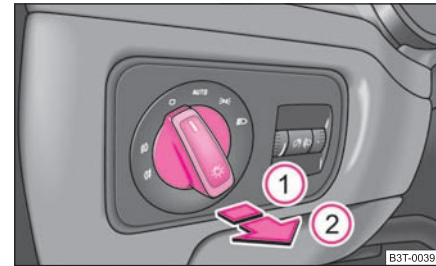

Fig. 43 Dash panel: Light switch
- First of all turn the light switch into position $\Rightarrow \text{☉}$ or ☉ ⇒ fig. 43.
- Pull the light switch into position ①.
- First of all turn the light switch into position  or  ⇒ page 57, fig. 43.